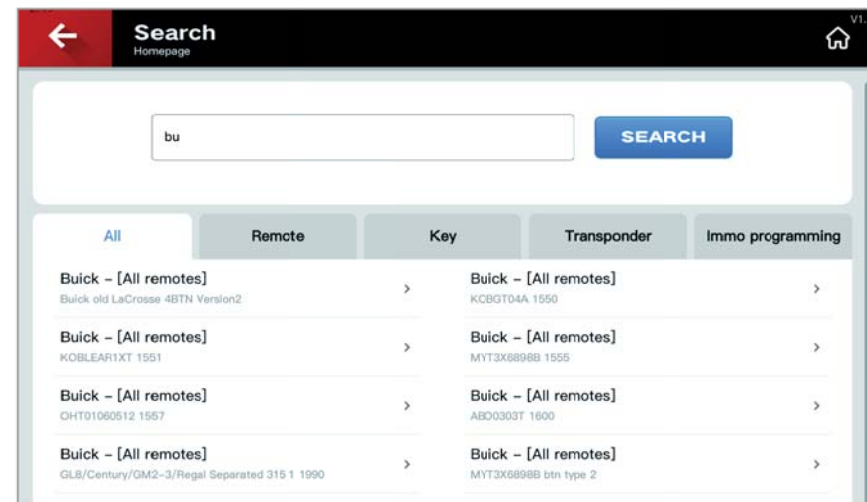

Fig.4.1.1
**Searching icon:** Type in the car model to quickly search its programming options on remote, key, transponder and immo programming. See Fig. 4.1.1